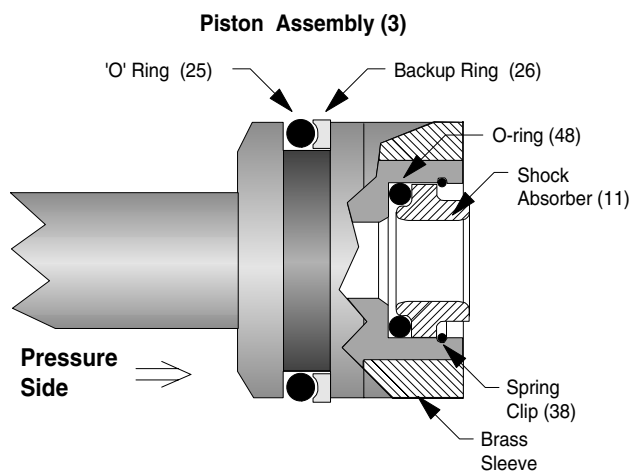

Figure 3-06
- 3.3.7.1 Position the piston assembly (3) vertically with the shock absorber to the top (ref. fig. 3-06).
Ref Figure 3-06